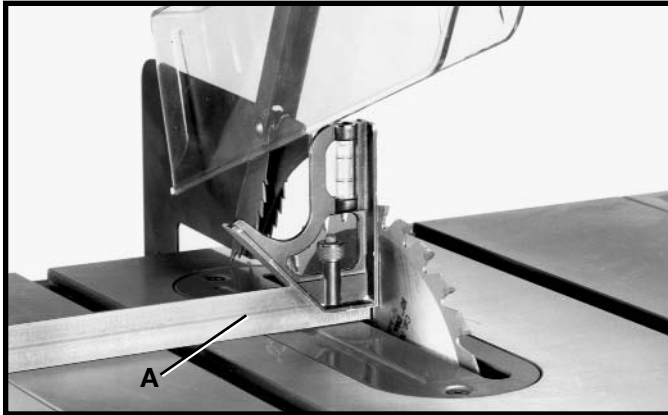
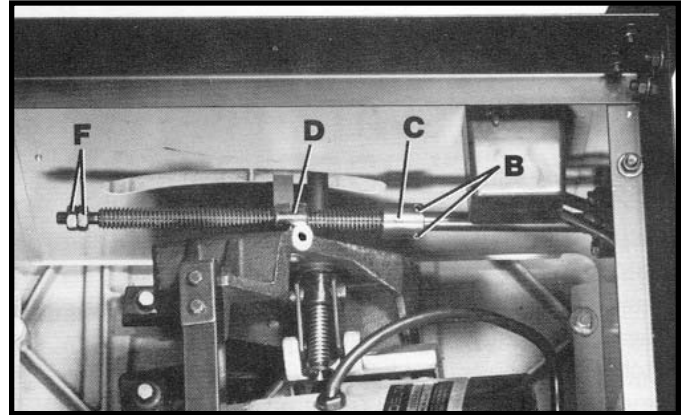
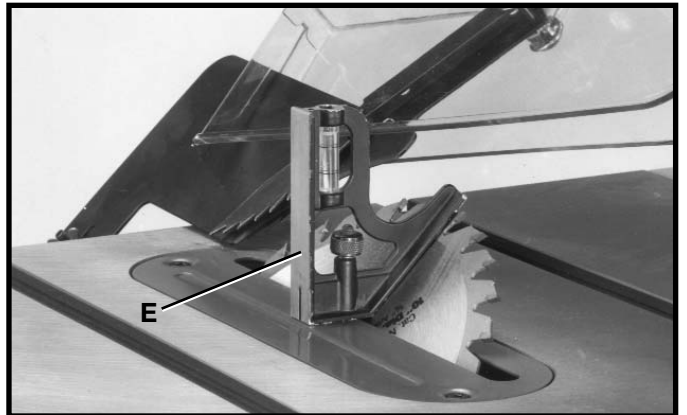

Fig. 36
Fig. 37
Fig. 38
2. Turn the blade tilting handwheel counterclockwise as far as it will go. Place a square (A) on the table and against the blade, as shown in Fig. 36, and check to see if the blade is at 90 degrees to the table. If the blade is not at 90 degrees to the table, loosen two set screws (B) Fig. 37, back off collar (C) and turn the blade tilting handwheel until the blade is at 90 degrees to the table. Then adjust collar (C) Fig. 37, so that it contacts bracket (D) when the blade is at 90 degrees to the table and tighten the two set screws (B).
3. Turn the blade tilting handwheel counterclockwise as far as it will go. Place a combination square (E) on the table and against the blade, as shown in Fig. 38, and check and see if the blade is at 45 degrees to the table. If the blade is not at 45 degrees to the table, back off the two locknuts (F) Fig. 37, and turn the blade tilting handwheel until the blade is at 45 degrees to the table. Then adjust the locknuts (F) Fig. 37, so that the inside nut contacts bracket (D) when the blade is at 45 degrees to the table. **NOTE:** After positive stops are set, check the pointer position and adjust as necessary.